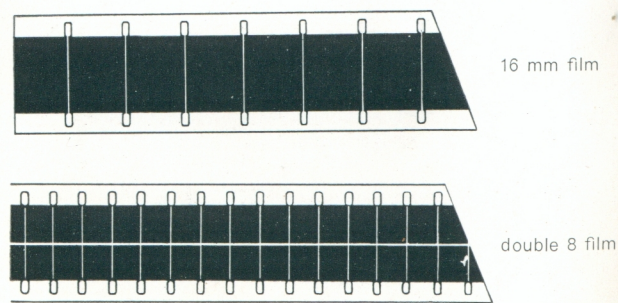

Fig. 4.
- i. The film must not be cut to a point (Fig. 4) nor must it be crinkled. Hold the film between the thumb and the index finger of the left hand and pass it through knife **41** (see Fig. 5 and 7). With the index finger of the right hand press hard on blade **42**, which will cut the end of the film to the right shape for passage through the automatic loading device. Throw away the cut end of the film to prevent its passing through to the mechanism.